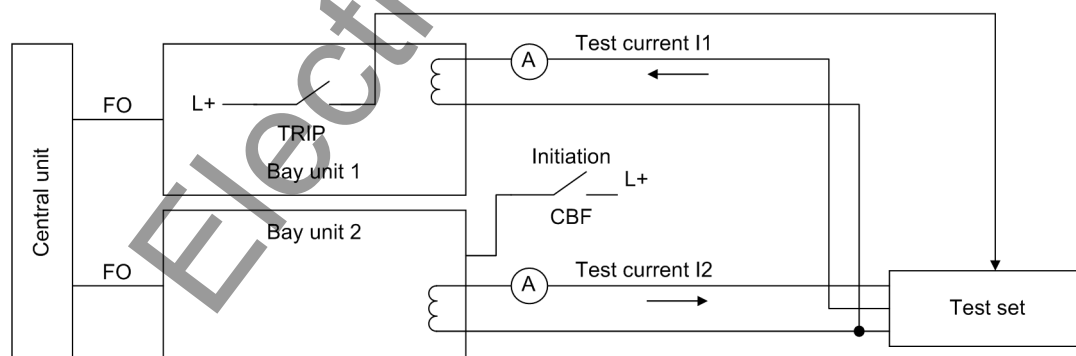

Figure 7-14 Test setup for the trip characteristic of the breaker failure protection
- Test setup** The test setup is shown in Figure 7-14, page 285.
The test setup for the measuring of the time delay is shown in Figure 7-14, page 285.